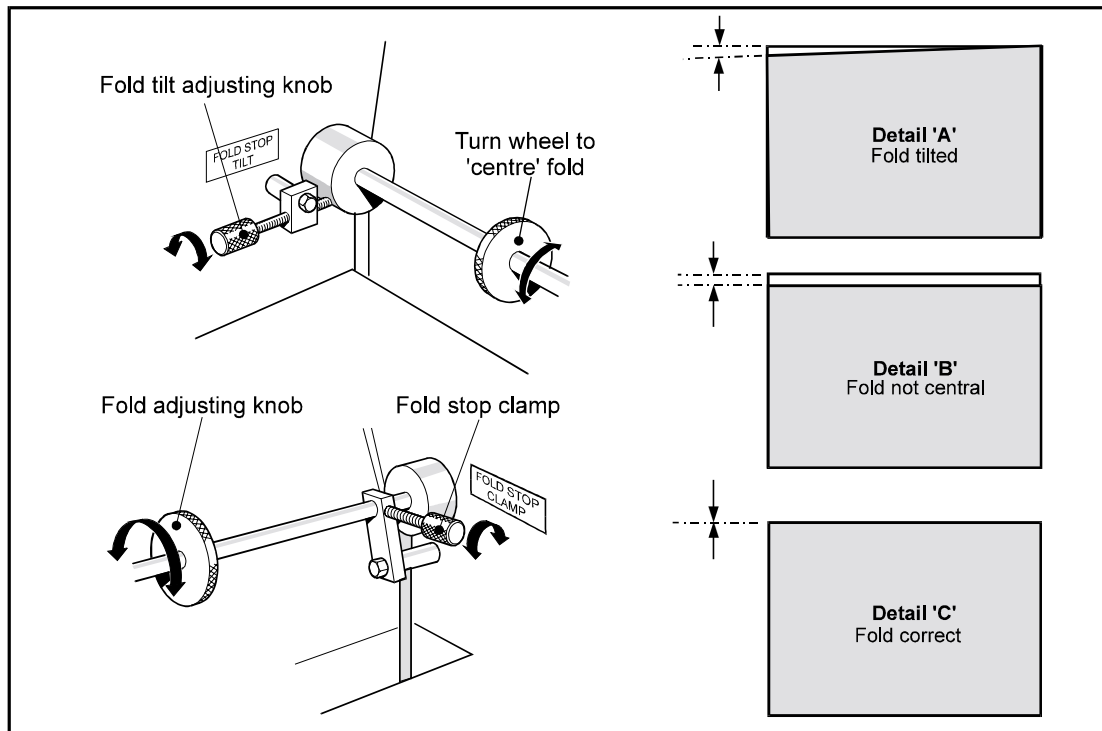

Figure 5.2 - Adjusting the fold.
4. Turn on the Bookletmaker and run a few A4 (8½" x 11") sheets through to ensure that the fold is along the center of the sheet. Figure 5.2, details A, B and C.